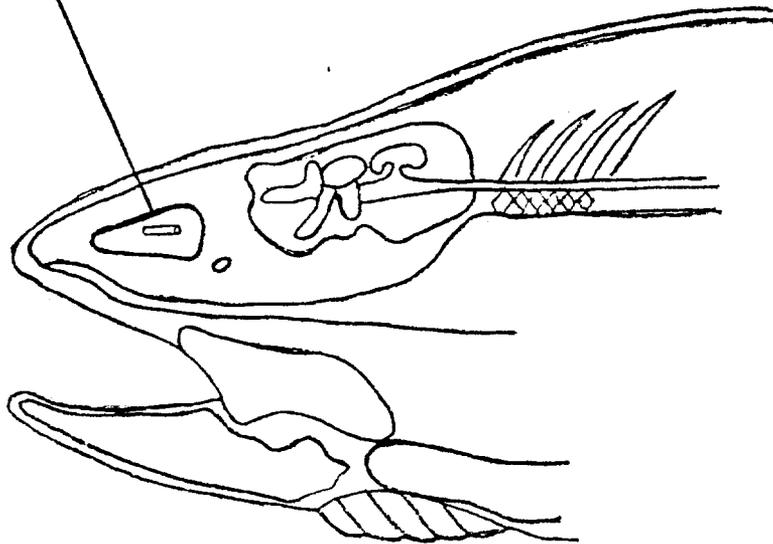

Figure 3. Checking for proper tag placement.
6. In order to obtain maximum tag retention the tag should be implanted in the cartilaginous wedge in the fish's nose (Figure 3). To check for proper tag placement, tag a fish, and using a single edged razor blade or a sharp scalpel, bisect the skull along the median plane. The tag should then be readily visible in the fish's nose. If the tag is too shallow or deep adjust the head mold accordingly and check a few more fish. In our tagging of wild juvenile coho we tagged fish ranging in size from 55 to 150 mm fork length. This required sorting our fish into different size groups; different head mold settings were used accordingly. We felt we could tag up to a 35 mm range in lengths with one head mold setting and still have good tag placement. We used three different head molds during our tagging operations: a 65/lb. head mold for fish 55 to 80 mm in fork length; a 30/lb. head mold for 80 to 120 mm fish; and a 15/lb. head mold for 120 to 150 mm fish.